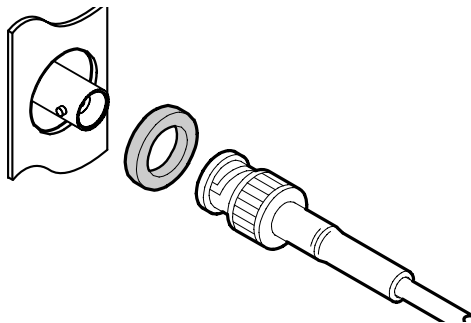
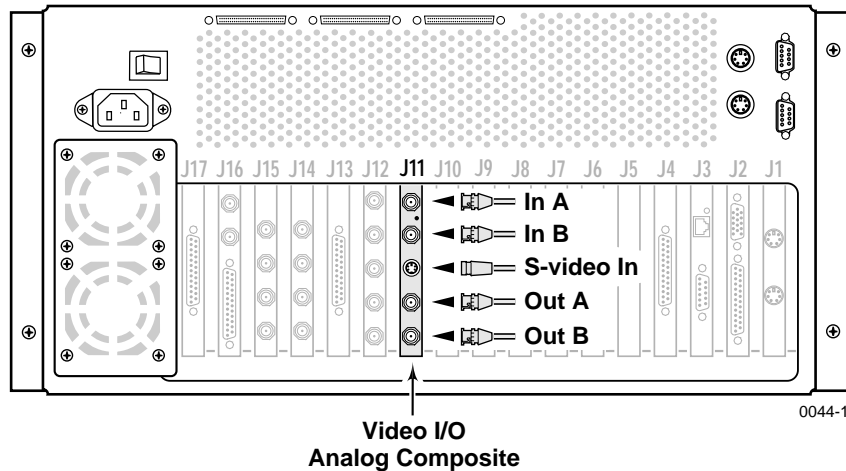

Figure 8. Installing Mesh Washers
Figure 9. Analog Composite I/O Cable Connections Example
11. Reinstall the Profile chassis in the rack and reconnect all cables previously removed. Before attaching cables to the BNC connectors, install the mesh washers as shown in Figure 8.
12. Install mesh washers (Figure 8) and connect analog composite input and output cables to the Analog Composite I/O board. See Figure 9 for an example.